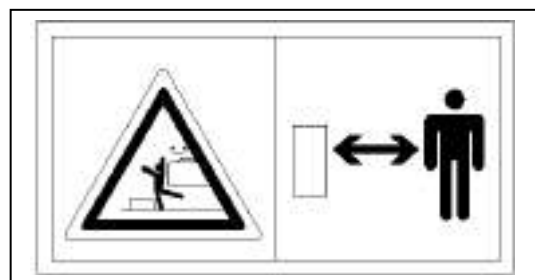

Figure 1-31 Sign for keeping away from the slewing area
(30) Prohibit from entering the slewing range and away from the machine's slewing area, as shown in Figure 1-31.